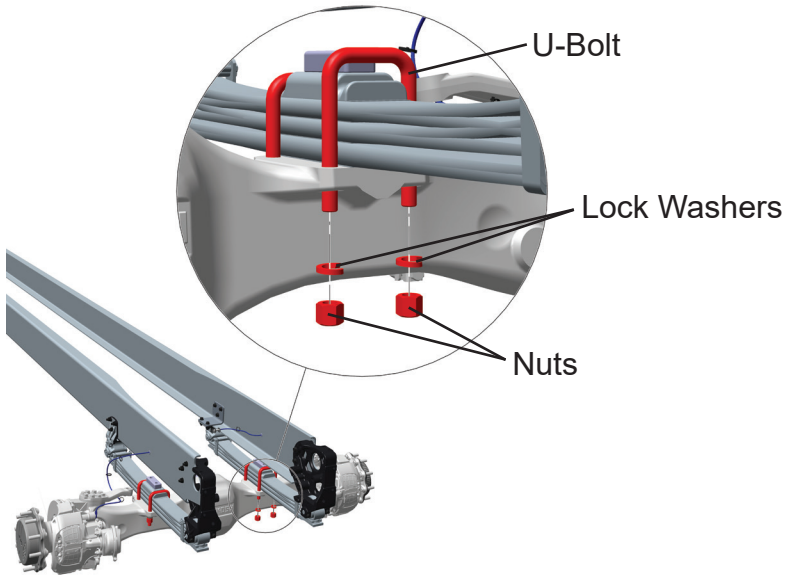

Figure 1
- Loosen and remove nuts and lock washers from one U-bolt, see Figure 1. Nuts and lock washers will not be reused.
- Remove U-bolt from axle and spring assembly, see Figure 1. U-bolt will not be reused.